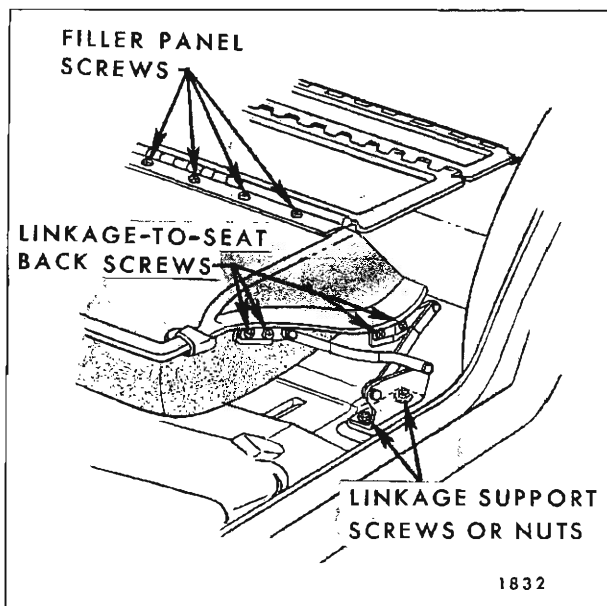
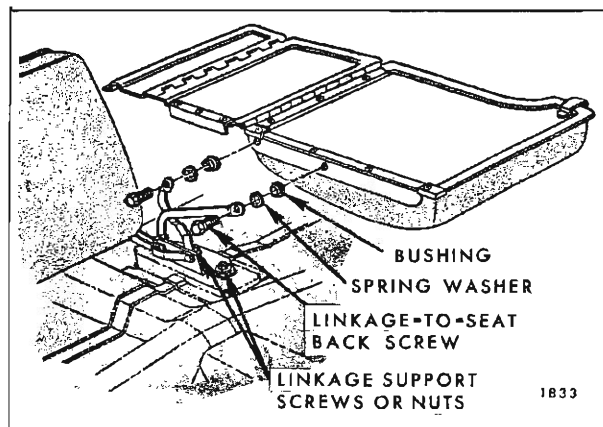

Fig. 15-78—Folding Second Seat Back Linkage and Filler Panel
Fig. 15-79—Split Second Seat Inner Linkage
- Mark position of folding second seat back linkage supports on floor pan. Remove nuts from both sides of seat back securing linkage supports to floor pan (See Figure 15-78 for full width seat, Fig. 15-79 for split seat).
- To remove linkage from folding second seat back remove linkage-to-seat back panel attaching bolts and remove linkage - See (Fig. 15-78 for full width seat, Fig. 15-79 for split seat).
- To install, reverse removal procedure. If linkage was removed from split seat back, make sure bushings and spring washers are properly installed prior to installing linkage attaching bolts. (See Fig. 15-79).
2. Move folding second seat back forward just sufficiently to remove two lower linkage-to-seat back panel attaching screws. (See Fig. 15-78).
4. Remove two upper linkage-to-seat back panel attaching screws. (See Fig. 15-78).
5. Remove nuts securing linkage support to floor pan (See Fig. 15-78), then carefully remove linkage assembly from seat back and floor pan.
3. Remove nuts securing inner linkage assembly to floor pan (See Fig. 15-79).
4. Remove inner linkage-to-seat back bolts from both right and left seats (See Fig. 15-79); then carefully disengage inner linkage from seat backs and floor pan studs and remove linkage assembly.
5. To install, reverse removal procedure. Make sure bushings and spring washers are properly installed prior to installing linkage attaching bolts to both right and left seat back panels. (See Fig. 15-79).